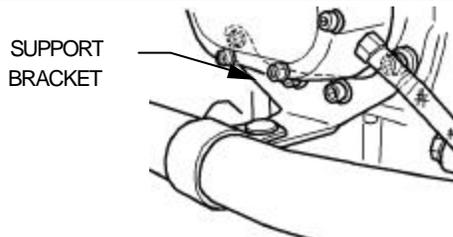

FIGURE 1
5. Place your motorcycle on the sidestand. Remove the front headpipe support bracket by removing the engine oil filter and clutch release cover. A small amount of oil may leak out as the cover is removed (If the motorcycle's suspension has been lowered or the sidestand modified you may want to drain the engine/transmission oil before removing the covers). Remove the four bolts securing the stock front headpipe support bracket and install the supplied support bracket with the stock mounting bolts and tighten. (See figure 1)